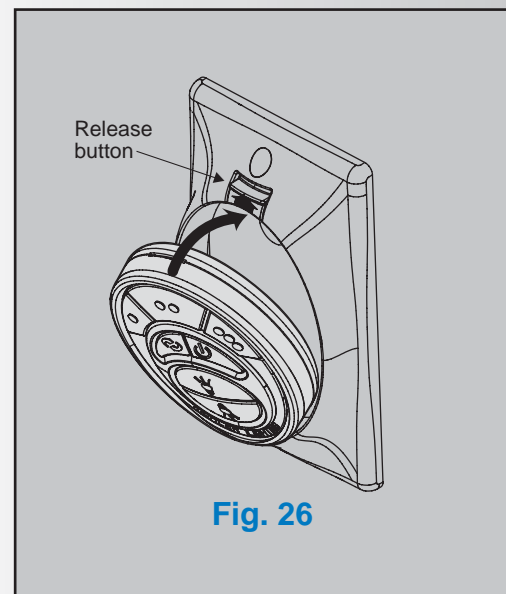

Fig. 26
1. To place the transmitter in the wall plate, put the bottom end in first and then press the top into the wall plate. The transmitter is now held in the wall plate and will function from here. (Fig. 26)